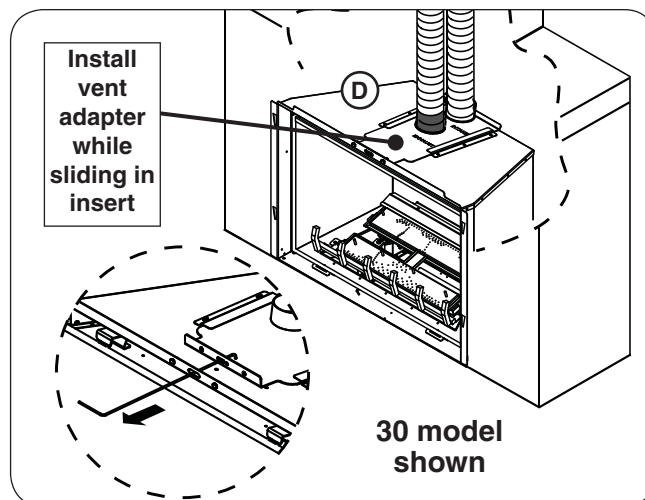

Fig. 27-1 Fully slide-in unit / install vent adapter
- Slide the vent adapter into the top of the direct vent insert as shown in Fig. 27-1, D. Simultaneously slide the direct vent insert fully into the fireplace. The supplied wire hook can be used to assist in pulling the vent adapter forward into the insert.